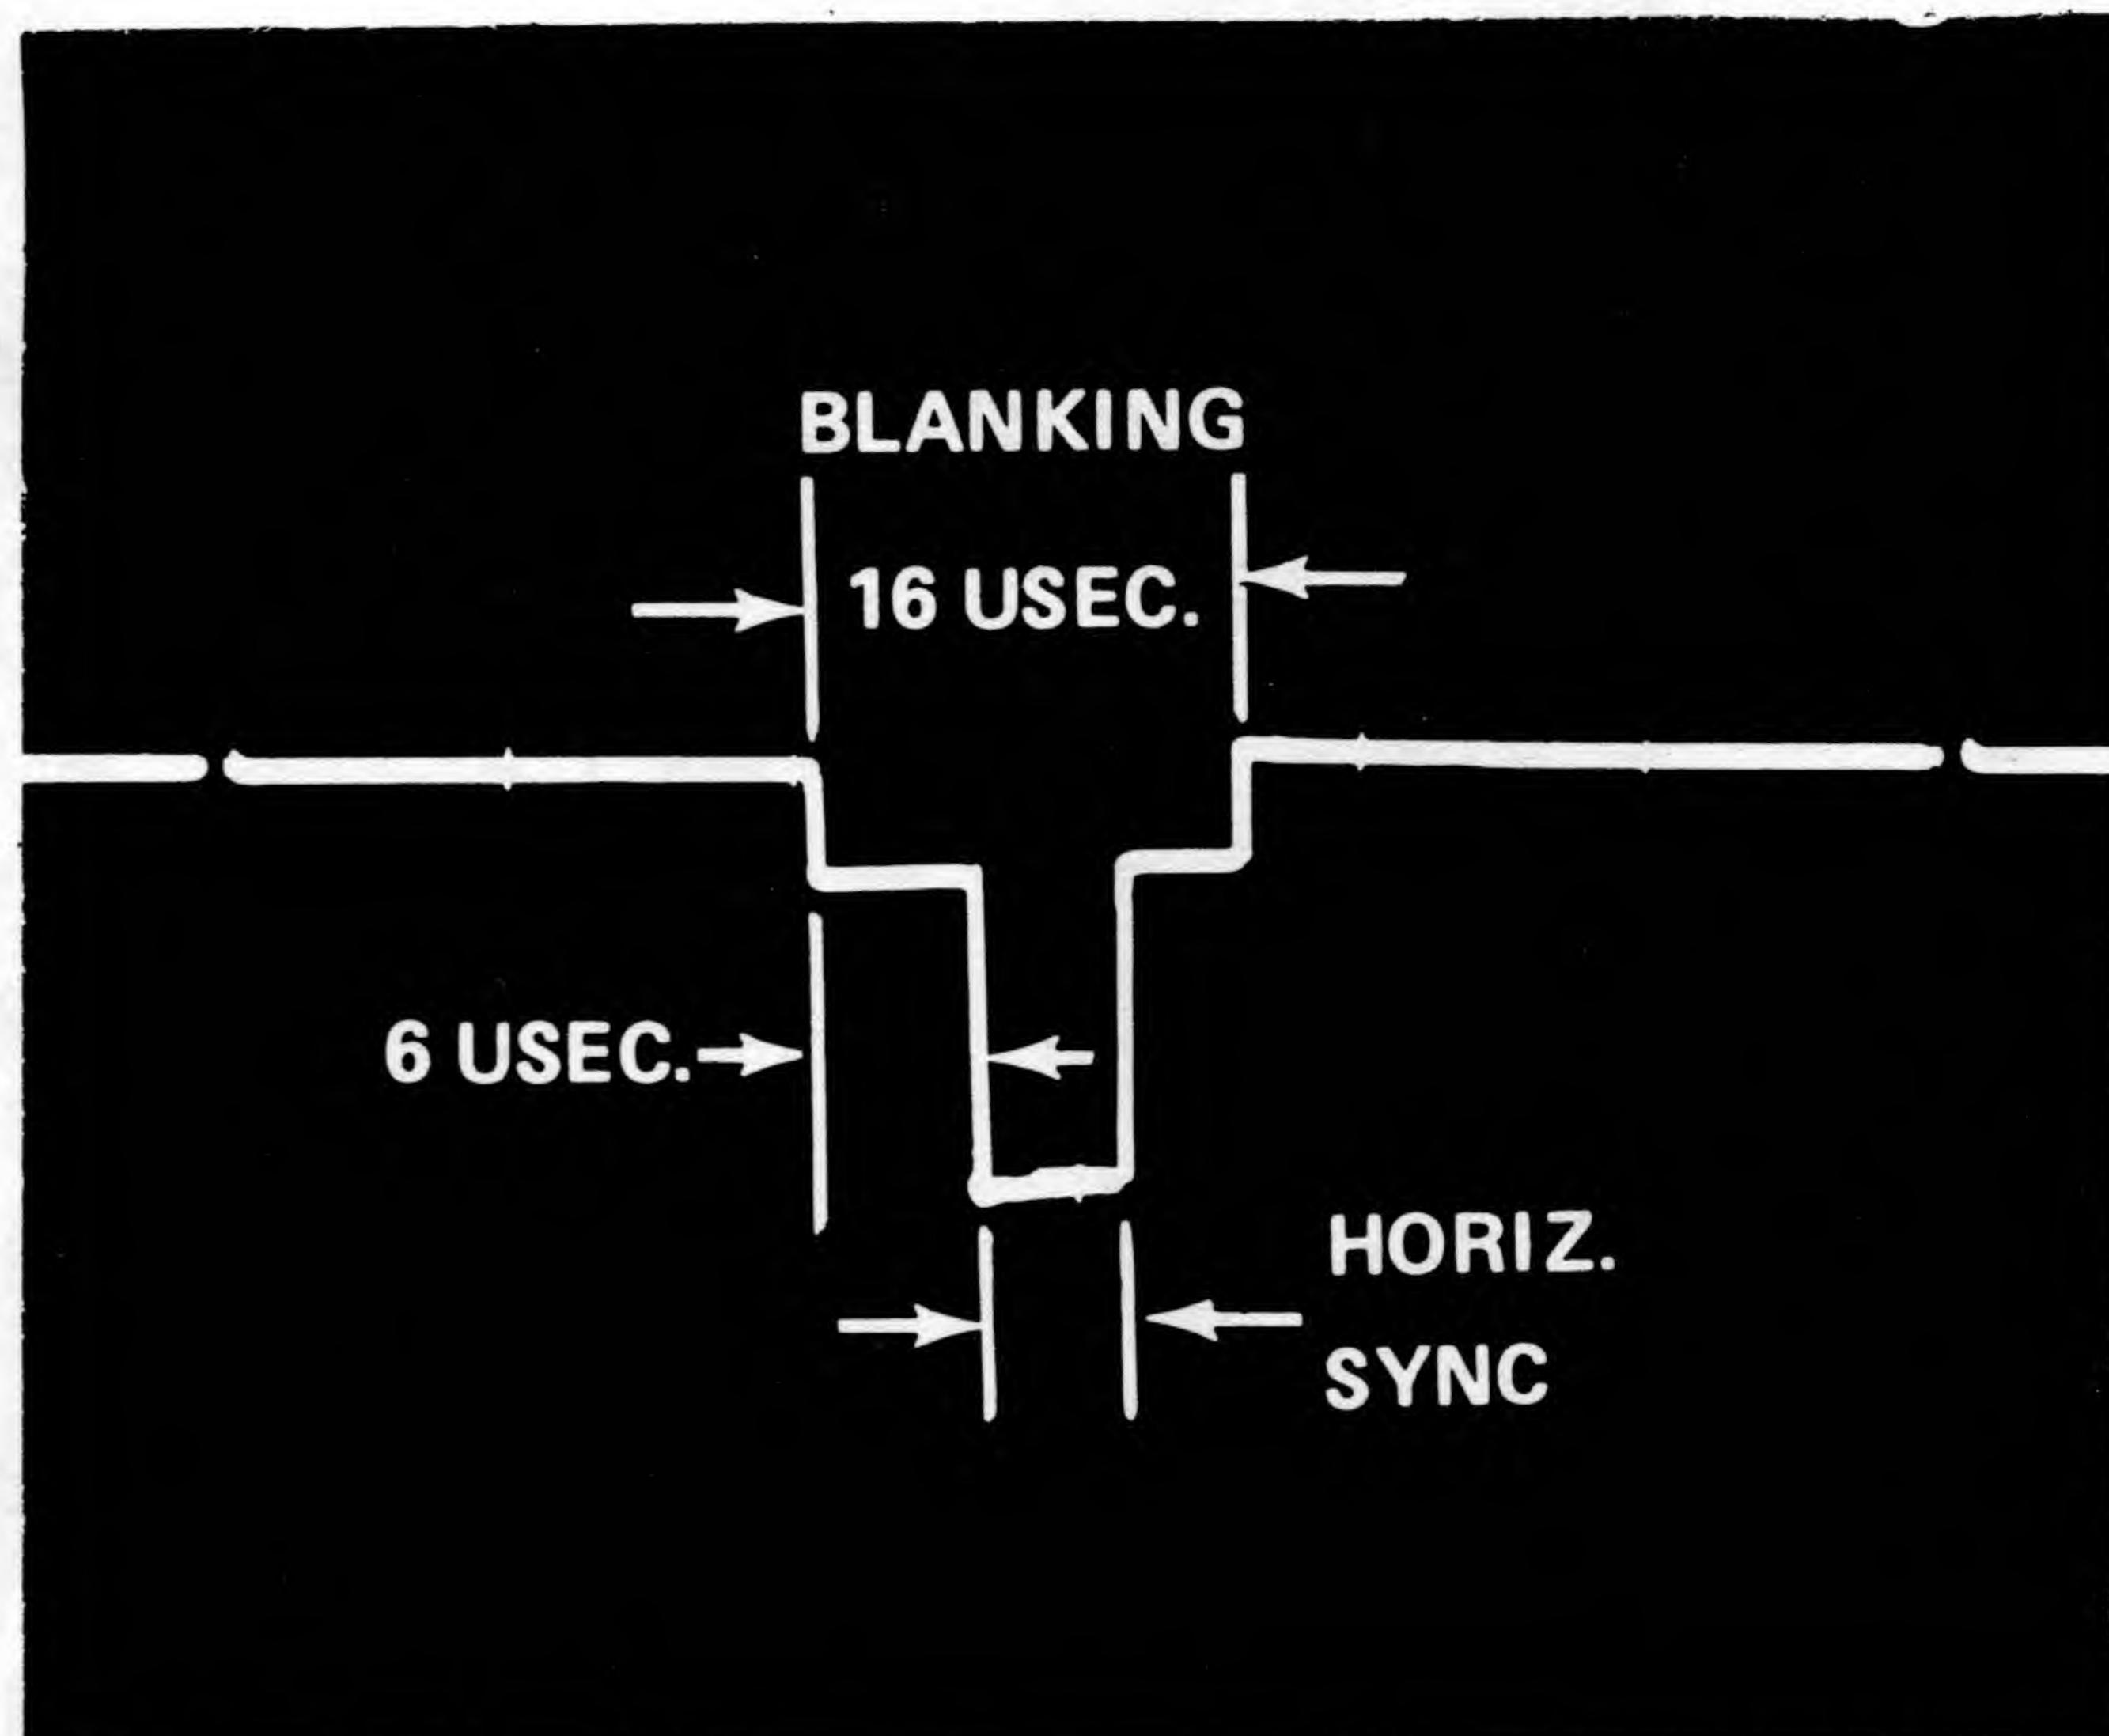

FIGURE 1
3. Adjust the Blanking Width Control (R70) for 16 usec. width (see Figure 1).
4. Adjust the Blanking Centering Control (R71) for 6 usec. before horizontal sync (see Figure 1).